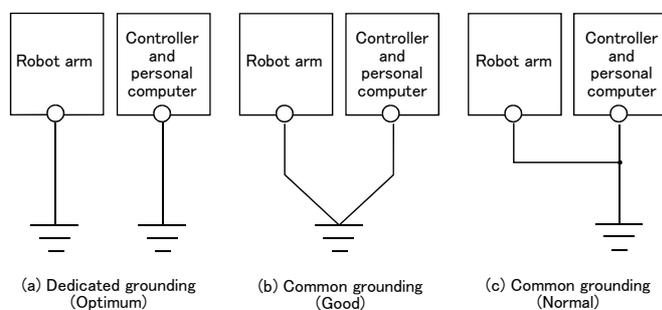

Fig.2-4 : Grounding methods
1) There are three grounding methods as shown in Fig. 2-4, but the dedicated grounding (Fig. 2-4 (a)) should be used for the robot arm and controller when possible. (Refer to the separate "Controller setup, basic operation, and maintenance" for details on the controller grounding.)